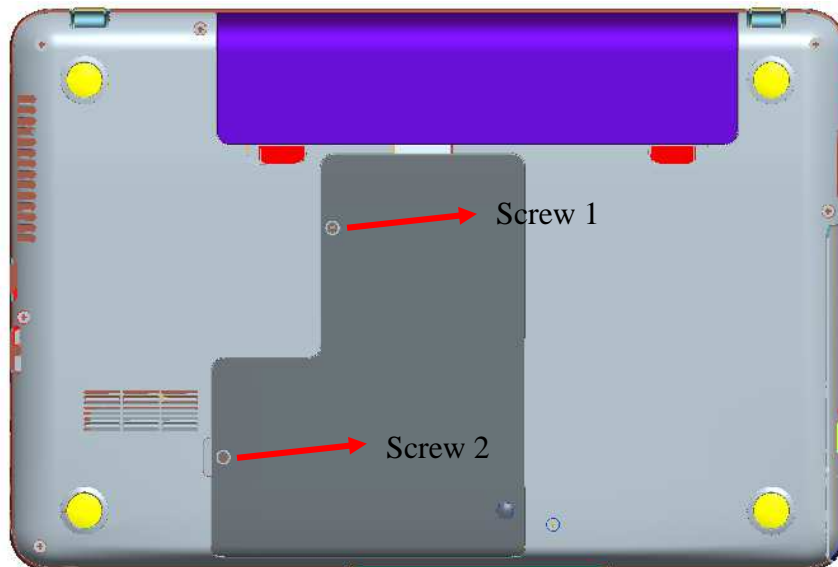

Figure 4-3-3 Final Position
2. Install the Ram Door at final position. (See Figure 4-3-3)